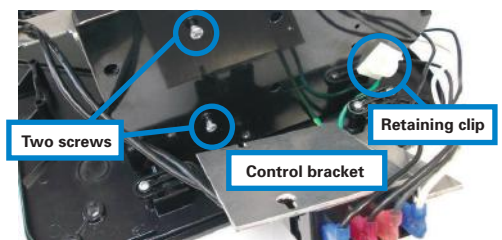

Figure 3
2. Remove the two (2) screws that fasten the control bracket onto the dryer and **save them for Step 12**. Remove the four wires from the white retaining clip while keeping them attached to the Control (**Figure 3**).